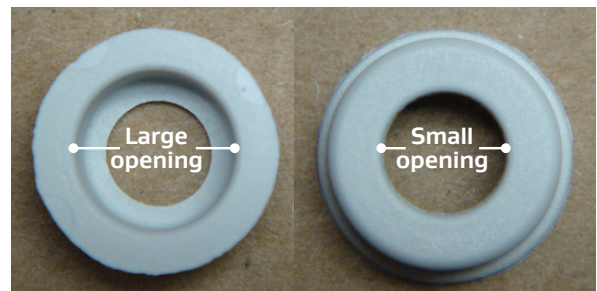

Figure 49: Support sleeve
4. Slide the support sleeve onto the cable with the larger opening facing the cable and the smaller opening facing the end of the cable (Figures 49 and 50).